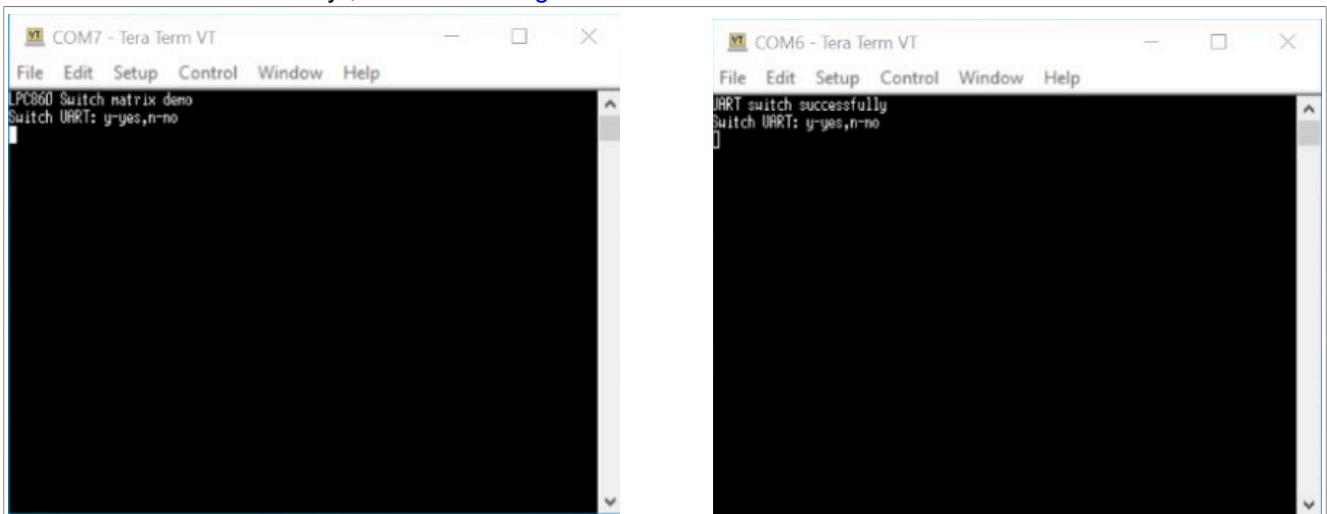

Figure 5. Tera Term communication
- When "y" is printed in Tera Term COM7, the UART0 switches to PIO0_24/PIO0_25. Tera Term COM6 prints "UART switch successfully", as shown in Figure 5.